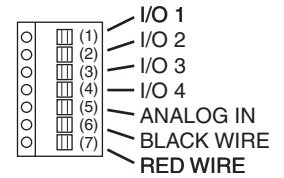

Figure 3: 7-pin connector
1. Remove the 7-pin connector from the controller and connect the red (+24) and black (GND) wires of the power adapter cable (I-25747) as indicated in **Figure 3**. Then plug the connector back into the controller.